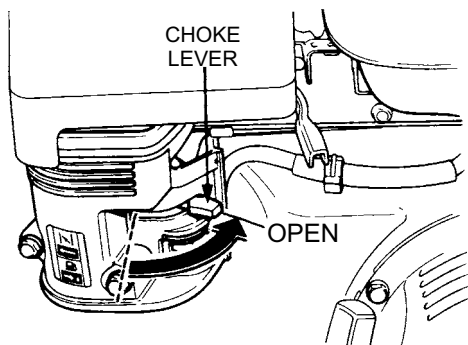

Figure 17. Choke Lever (Open)
- If the choke lever was moved to the "CLOSED" position to start the engine gradually move it to the "OPEN" position (Figure 17) as the engine warms up. If the engine has not started repeat steps 1 through 6.